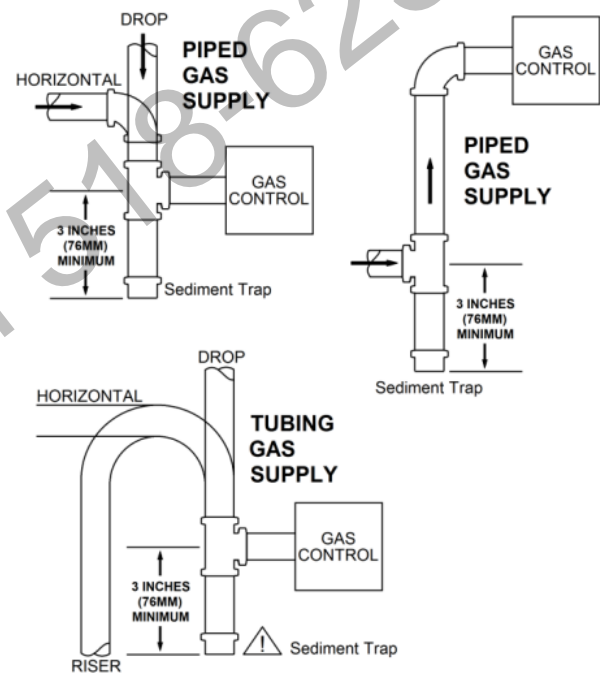

Figure 21 - Sample Gas Supply Sediment Traps
🔥 NFPA Code and Hearthstone require the use of a dedicated sediment trap just upstream of the unit. Damage to the valve, or other components due to the lack of a sediment trap are not covered by warranty (see Figure 21).
- Install the sediment trap (where required) in the gas supply line to prevent contamination of the gas valve (see Figure 21)